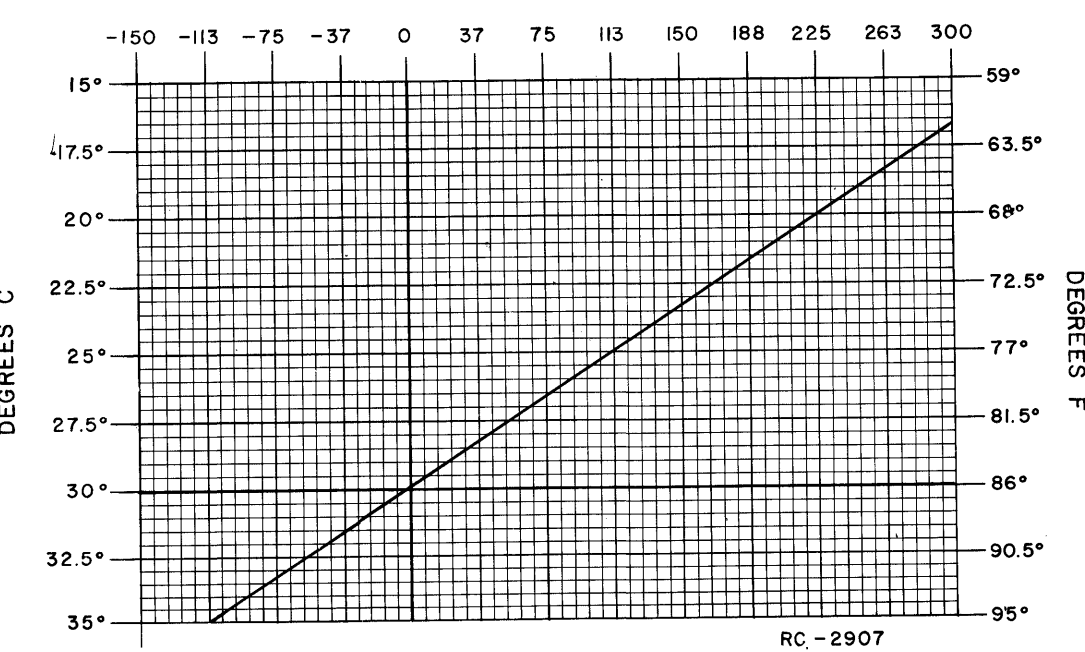

Figure 2 - Frequency Characteristics Vs. Temperature
First, check the frequency to determine if any adjustment is required. (Refer to frequency offset chart, Figure 2.) The frequency measurement requires equipment with an absolute accuracy that is 5 to 10 times better than the tolerance to be maintained. When adjusting the frequency, the entire radio should be as near as possible to an ambient temperature of 30 C (86 F).
To set crystal frequency using "beat frequency" method, the temperature should be at 30 C (86 F). If the temperature is not 30 C, then offset the "ON FREQUENCY" signal (at the receiver's input), as a function of actual temperature, by the frequency ERROR FACTOR shown in Figure 2.
2. Maintain the radio at 30°C (±5 C, -10°C) and offset the oscillator, as a function of actual temperature, by the frequency error shown in Figure 2.